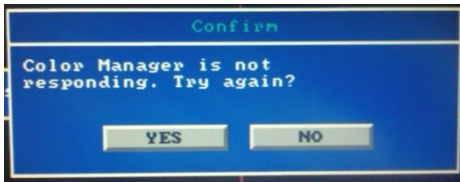
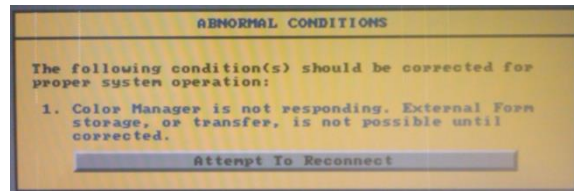

Fig. 67
Fig. 68
1. **The Host reports that the Color Manager is offline.** (Blue warning box in the middle of the screen (Fig. 67) that can be dismissed from the normal operating GUI, but if you go into the “System menu”, the yellow, Color Manager offline box (Fig. 68) is persistent and cannot be dismissed from this screen until connection is restored.)